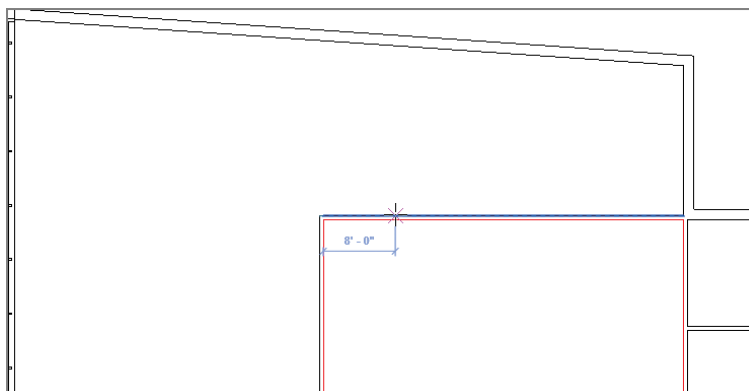

FIGURE 1.27 Place an interior wall using temporary dimensions.
1. Add a wall to the main layout area using the wall type Interior – Partition Type A2. Continue to use the Finish Face: Interior location line option; however, use a temporary dimension to place each wall exactly 8'-0" (2.5 m) from the nearest wall intersection, as shown in Figure 1.27. Repeat this process for the opposite side.